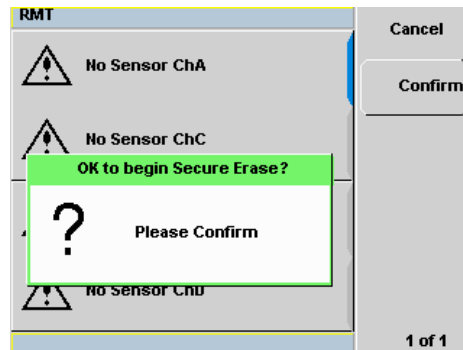

Figure 2-58 Confirmation to begin secure erase
- 2 A confirmation pop-up will be displayed, press **Confirm** to begin secure erase (see Figure 2-58).